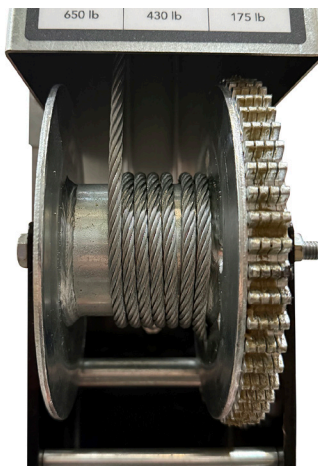

Figure 4-6: Cable Wrapped Tightly and Evenly
15. Turn the winch handle and wrap the cable onto the reel. The cable must be wrapped a minimum of five full times around the reel while the fork carriage is at the lowest position. Make sure the cable is winds tightly and evenly on the drum. Make sure to wrap the cable to the outside of the reel as shown in Figure 4-6.